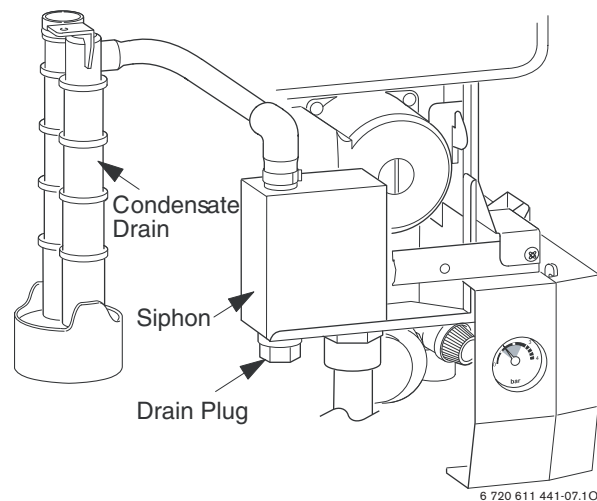

Fig. 58
- ▶ Unscrew and remove the the siphon by releasing the jubilee clip. Refer to fig. 58.